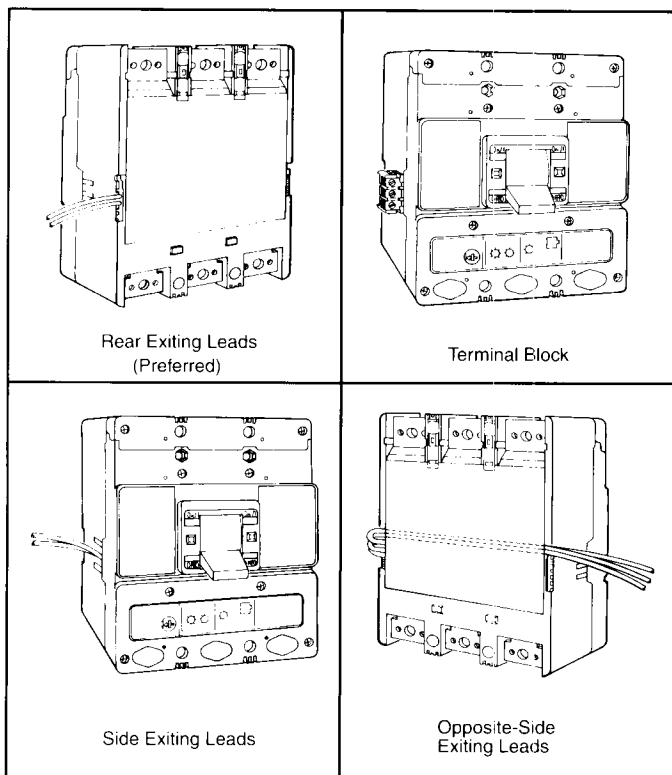

Fig. 2-2 Accessory Wiring Options
- 2-4. Route wiring to meet installation requirements. (See Fig. 2-2.):